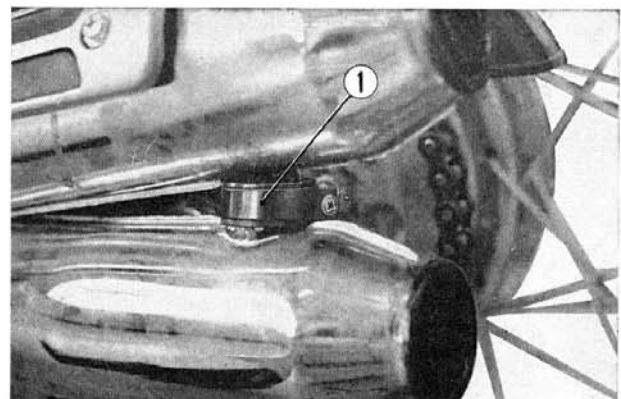

Fig. 2-9 ① Exhaust muffler band
11. Observe the installation of the Nos. 1 and 2, and Nos. 3 and 4 muffler bands. Install the exhaust mufflers. (**Fig. 2-9**)